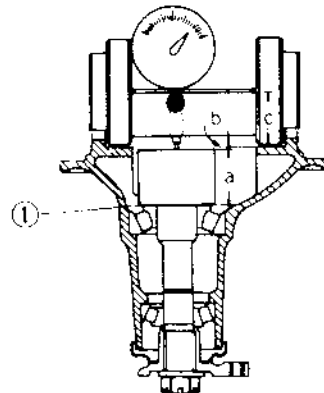

Fig. 16-21-3
- 4) Referring to Fig. 16-21-3, note that three dimensions are involved: "a" "b" and "c". The value of "b" is unknown, and is to be determined now for calculating the required thickness of shims. The values of "a" and "c" are given: the sum, "a" + "c", is 94 mm, which is indicated on the dummy tool.
5) Shim stock is available in twelve selective thicknesses. Select one or two shim(s) from the below to obtain the closest thickness to above required thickness, and insert selected shim piece(s) into clearance indicated as Fig. 16-21-3—①.